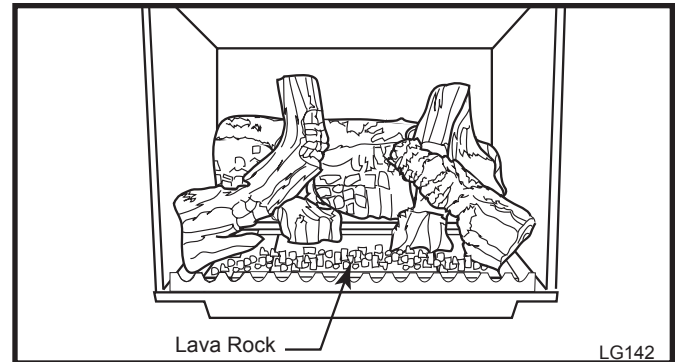

Fig. 35 Completed log installation.
5. Loosely sprinkle the lava rocks directly on top of the burner in front of and between the decorative grate and the right and left logs. Use the lava rock to cover brackets on the burner. (Fig. 35)